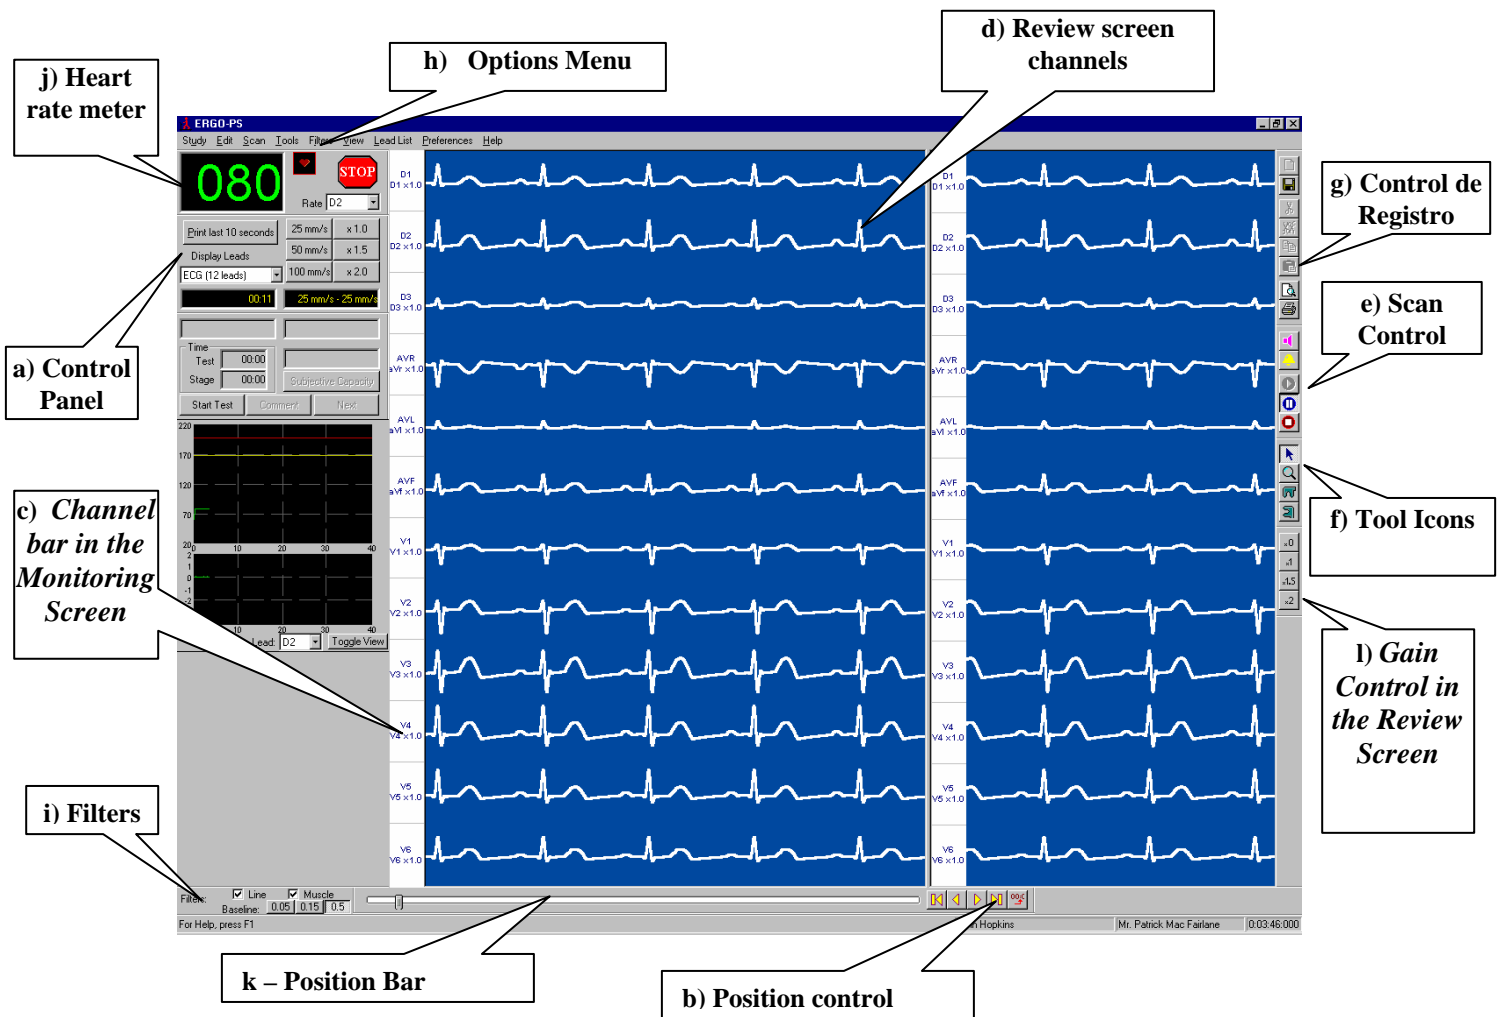

Figure 07
5. Click on  button from de “monitoring control” (Figure 07-e) to start the ECG acquisition.
1. Open on **SCAN** menu from the **Options Menu (Figure 07-h)** and then click **STOP** option. Answer **YES** to the question. This operation can also be called by clicking on the  button (**Figure 07-e**) from the monitoring control toolbar.
2. Click on the “diskette” icon from the toolbar (**Figure 07-g**) to save the study.
Within the Options Menu (Figure 07-h), a “View” icon is available, allowing to the attendant the following options:
PRINT (See **Figure 07-g**)
- : Opens Tag List window (**Figure 07**)
The New Position window is shown by clicking on the button  of **Figure 07**.
This toolbar is located on the right of the screen (See **Figure 07-e**), has the following buttons: